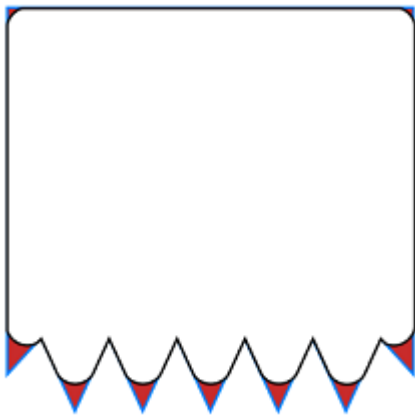

Fig. 6: Aperture with a mill radius, no smoothing
3. figure 6: shows a resulting aperture shape (black) with a large mill radius applied but not utilizing smoothing options in the compute aperture process.